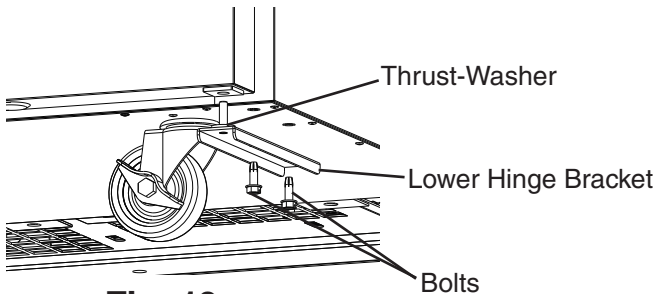

Fig. 10
- 4) While maintaining a hold on the door, remove the lower hinge bracket. See Fig. 10. Leave the thrust-washer in place.